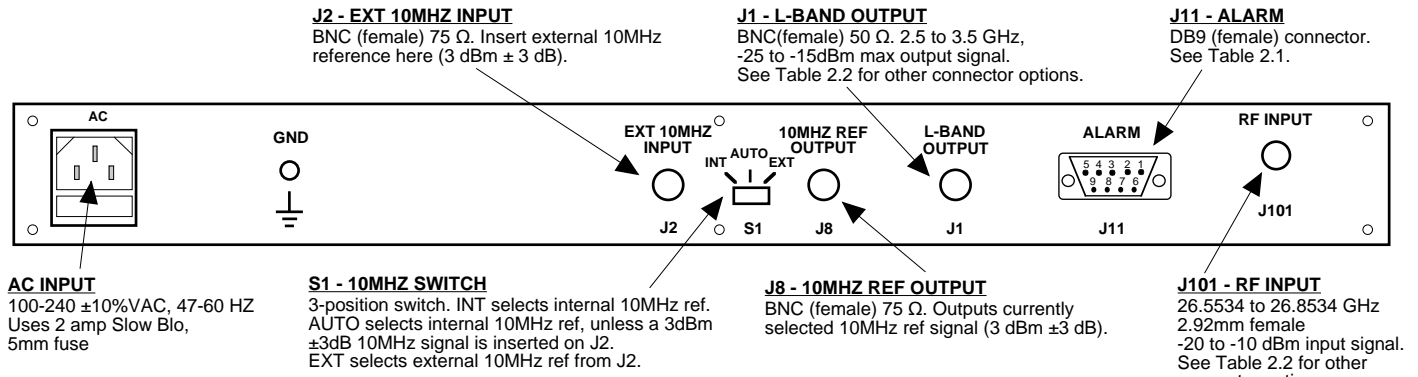

FIGURE 2.1 2116-267#-1200 Rear Panel I/O's
Figure 2.1 shows the input and output connectors on the rear panel.
1. Connect a -20 dBm to -10 dBm signal to RF INPUT, J101 (Figure 2.1).
5. Select either INT (for internal 10MHz ref), AUTO (for internal 10MHz ref UNLESS an external 10MHz, 3 dBm signal is connected to J2), or EXT (for external 10MHz, 3 dBm reference that is inserted at J2) on rear panel switch S1 (Figure 2.1).
7. Check that a 10MHz, 3 dBm \pm 3 dB signal is present at the 10MHZ REF OUTPUT (J8) (Figure 2.1).